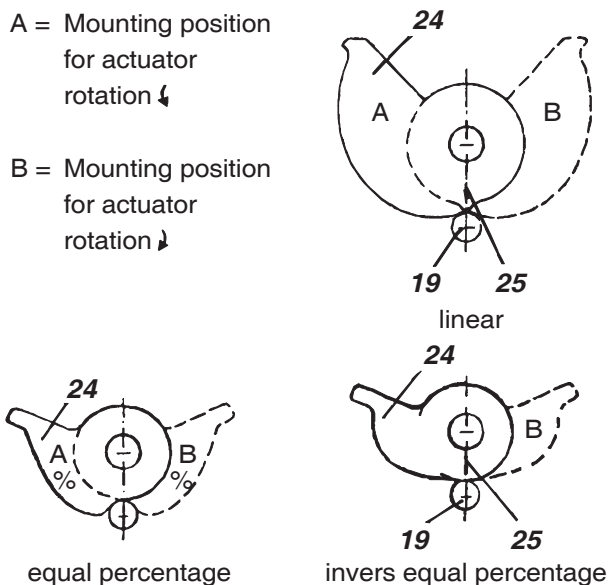
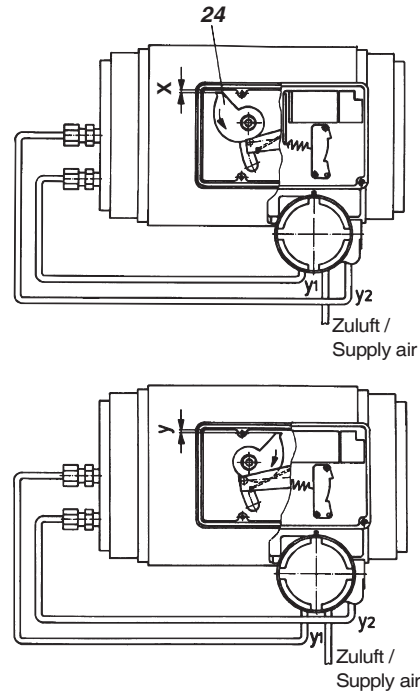

Fig.15: Mounting position of the cams
Fig.16: Rotary actuator with attachment kit for rotary movement and double-acting positioner
- d) Mount cam **24** in accordance with the direction of rotation of the actuator (see Fig. 15). The linear cam is fastened to the actuator drive shaft in such a manner that the dimension x or y (Fig. 16) amounts to 2 mm, whereas in case of equal percentage cam the dimension x is approx. 17.5 mm, and the dimension y is approx. 21.5 mm. In case of inverse equal percentage cam the dimension x is approx. 18 mm, and the dimension y is approx. 23 mm. When employing equal percentage and the inverse equal percentage cams, the range spring 420 493 013 (included in spring set FESG-FN) must be installed in the positioner.
Screw positioner to housing of attachment kit. With the linear cam and the inverse equal percentage cam check whether mark **25** points to the center of the cam follower **19** (see Fig. 15); adjust if necessary. With the equal percentage cam check whether the cam follower lies directly ahead of the start of the cam lobe; adjust if necessary.
exchange positioner outputs (see Fig. 16) and reverse cam. The changeover plate **50** (see page 23) remains in 'N' setting.